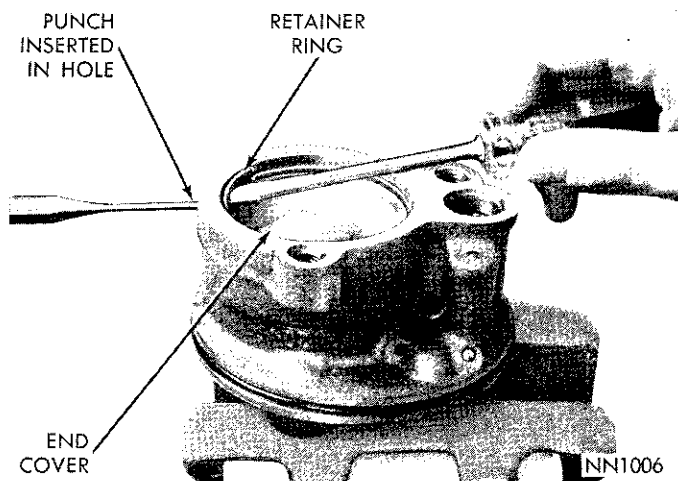
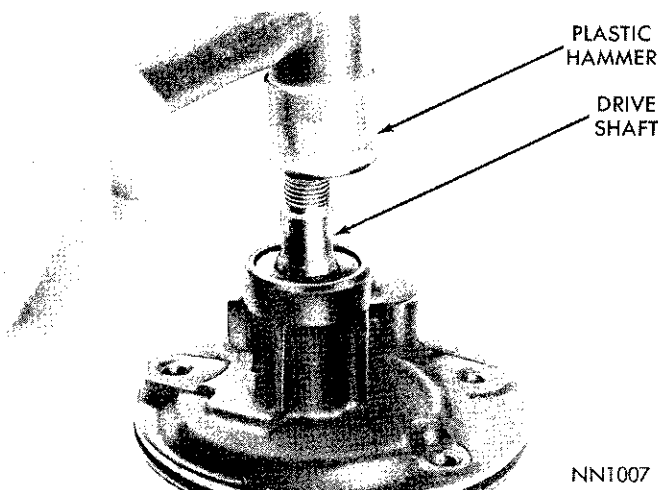
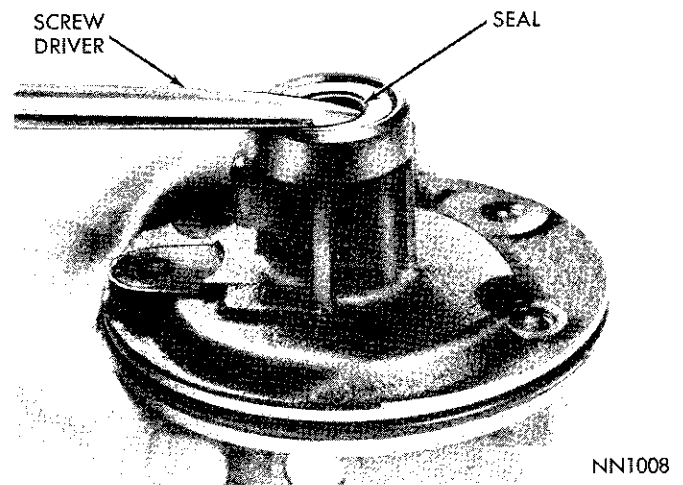

Fig. 6—Removing End Cover Retainer Ring
Fig. 7—Removing Drive Shaft Assembly
Fig. 8—Oil Seal Removal
(7) Using a punch, tap end cover retainer ring around till one end of ring lines up with hole in pump body. Insert punch in hole far enough to disengage ring from groove in pump bore and pry ring out of pump body (Fig. 6).
(8) Tap end cover with plastic hammer to jar it loose. Spring under cover should push cover up.
(9) Remove pump body from vise, place in inverted position on flat surface and tap end of drive shaft with plastic hammer to loosen pressure plate, rotor and thrust plate assembly from body. Lift pump body off of rotor assembly. Flow control valve and spring should slide out of bore also (Fig. 7).
(10) Remove and discard end plate and pressure plate "O" rings.
(11) Place pump body on flat surface and pry drive shaft oil seal out with a screw driver (Fig. 8).
(12) Inspect seal bore in housing for burrs, nicks